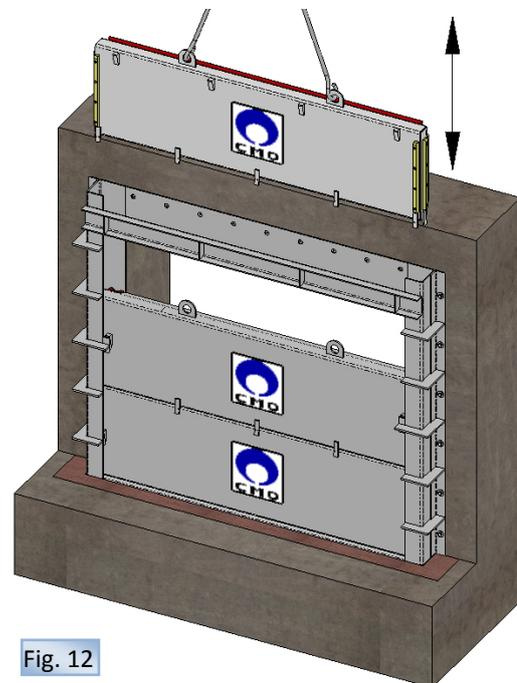

Fig. 12
- Modular penstocks (fig. 12):